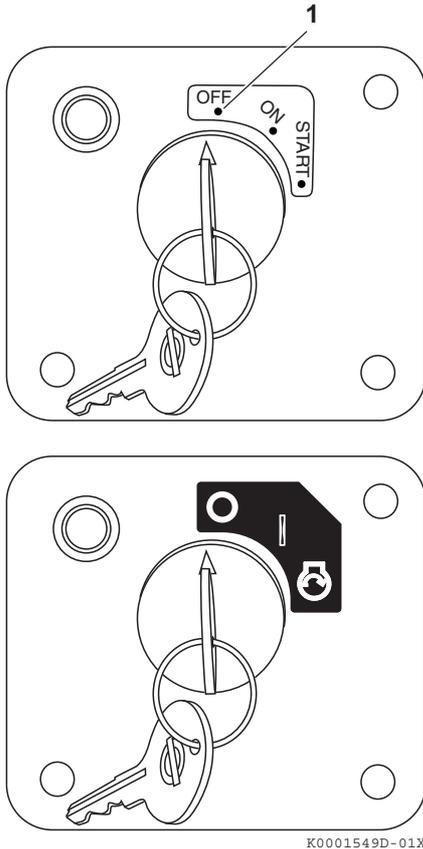

Figure 21
Turn the key to the OFF position (**Figure 21, (1)**) and remove it from the key switch.